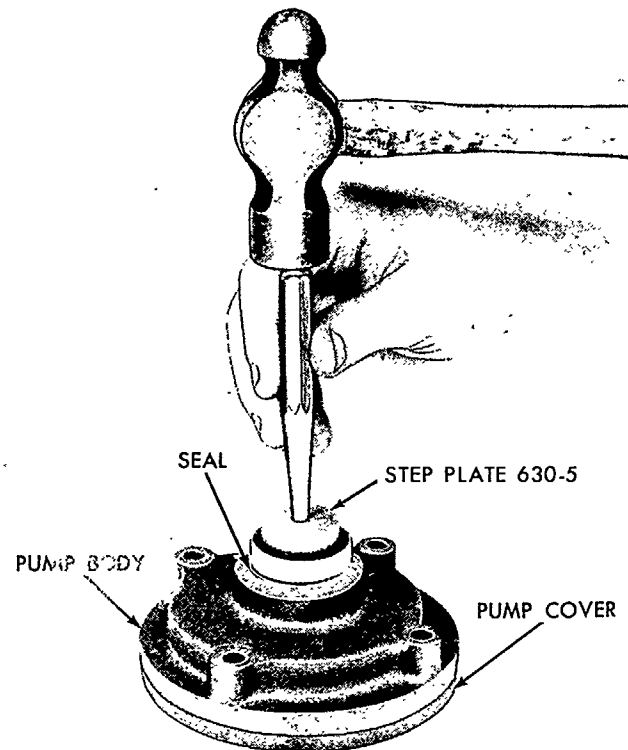

Figure 98
3. Install the seal in the pump with Step Plate No. 630-5, as shown in Figure 98.